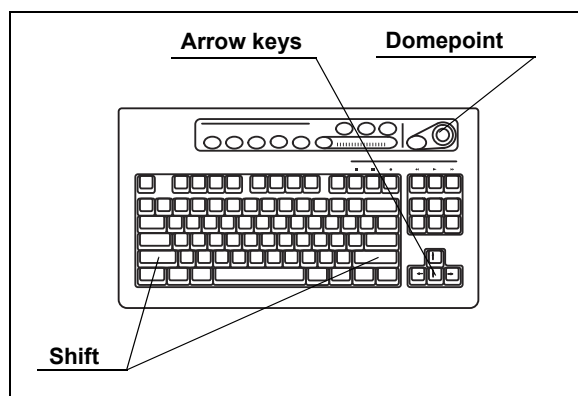
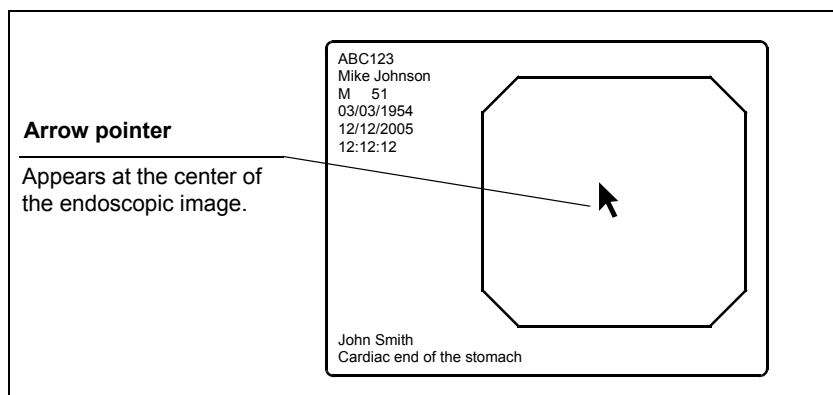

Figure 5.51
Figure 5.52
1. Press the “Shift” and any arrow key (see Figure 5.51). The arrow pointer appears in the center of the endoscopic image (see Figure 5.52).